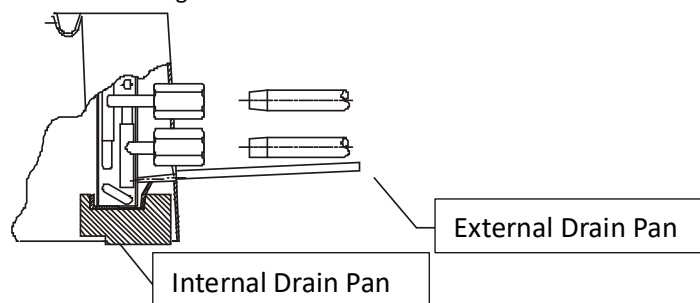

Figure B.8.2
3. Tighten the two screws while making sure the external drain pan is installed flush against the fixing plate. (Figure B.8.2)